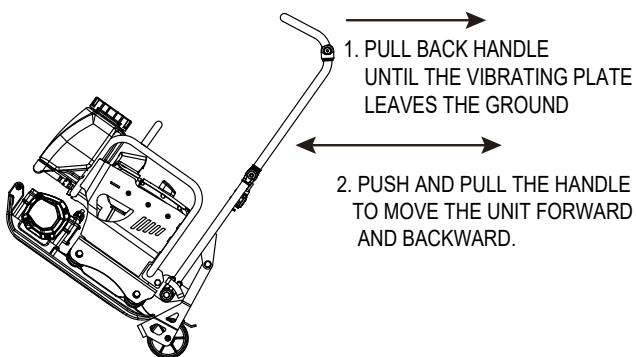

Figure 8. Wheel Kit Movement
3. Check that the wheels turn smoothly when unit is moved forward and backward. See Figure 8.